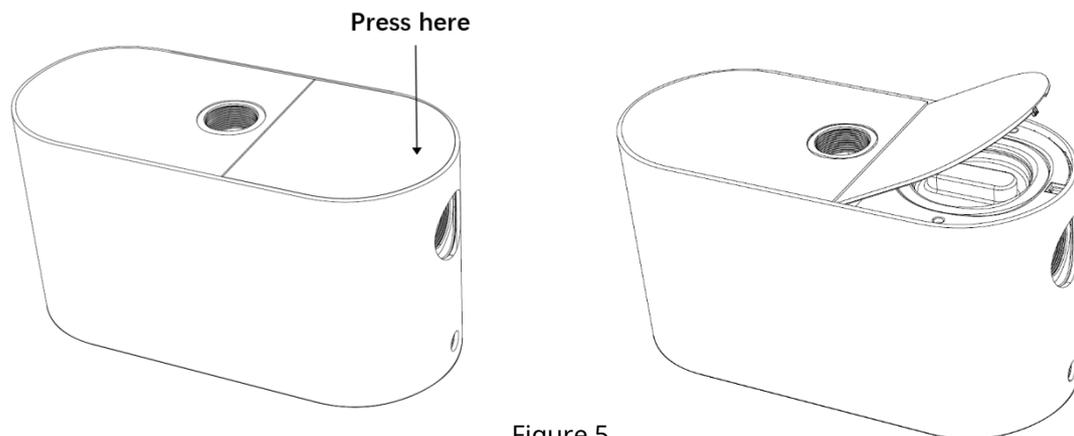

Figure 5
- 2). Press the cover plate to spring and open the cover plate. (See Figure 5)